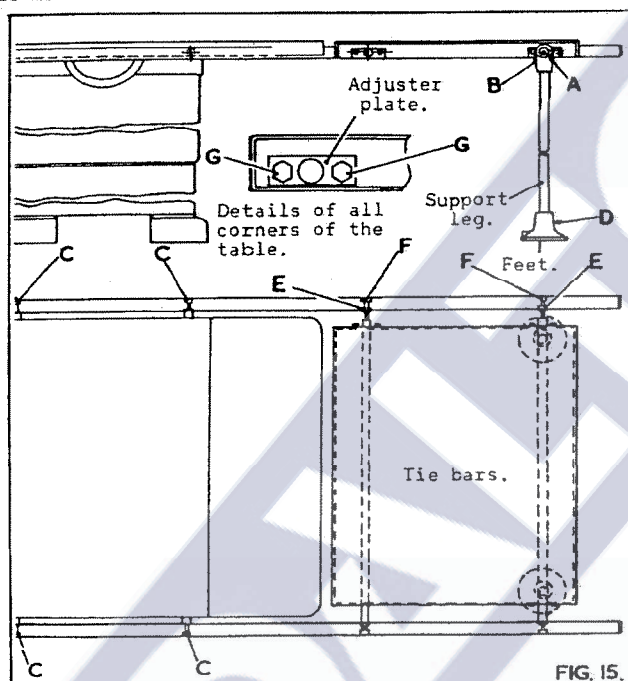

FIG. 15.
A sheet metal extension table can be supplied to fit to the right of the saw as shown in Fig. 15. This table increases the capacity to the right of the saw to 50" (1270mm) between the saw and rip fence.
1. Remove parts from parcel and remove protective coating by applying a cloth soaked in paraffin, turpentine or other solvent and assemble as shown in Fig. 15.
3. Centralise the table with the main table of the machine. Loosen socket head grub screw "A" in Fig. 15 and keeping the filboes "B" pressed against the inside of the extension table. The whole assembly can slide along the tie bars. When central with the main table re-tighten socket head grub screw "A".